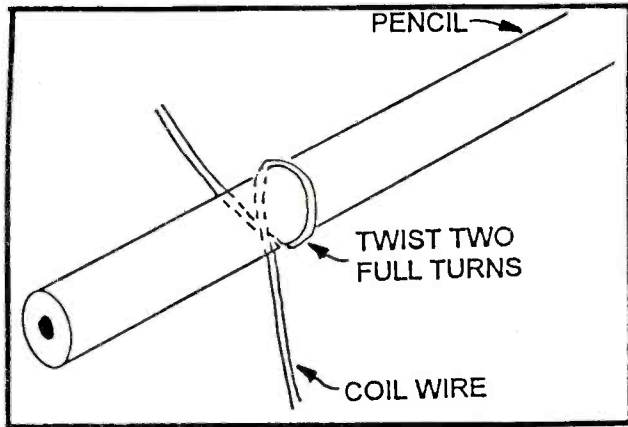

Figure 1: Attaching wire to the coil form
STEP 3. (Refer to Photos #2 and 3 and Figures 1 and 2) Wind twenty turns, close but not overlapping, on the coil form and make a tap by securing the coil with a drop of super glue, and then looping the wire around a pencil. Twist the loop twice and then remove the pencil. This is coil, L3. Wind eighty more turns and then punch two holes as in Step 2 and secure the end of the coil at the 80th turn, using pliers to pinch the wire the same as before. Leave a lead wire 6 inches long at this end of the coil. This is coil, L2. Coils L2 and L3 make up a total of 100 turns. Punch two more holes $\frac{1}{8}$ inch from the two you just used to secure the end of coil, L2. Pass